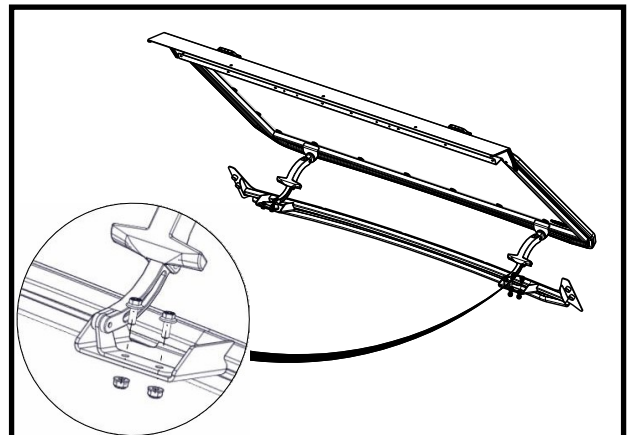

Fig. 10.4 (Windshield latches)
**10.4** Per fig. 10.4, attach each latch bracket to the cowl with (2) 1/4-20 x 5/8" bolts and nuts and tighten.